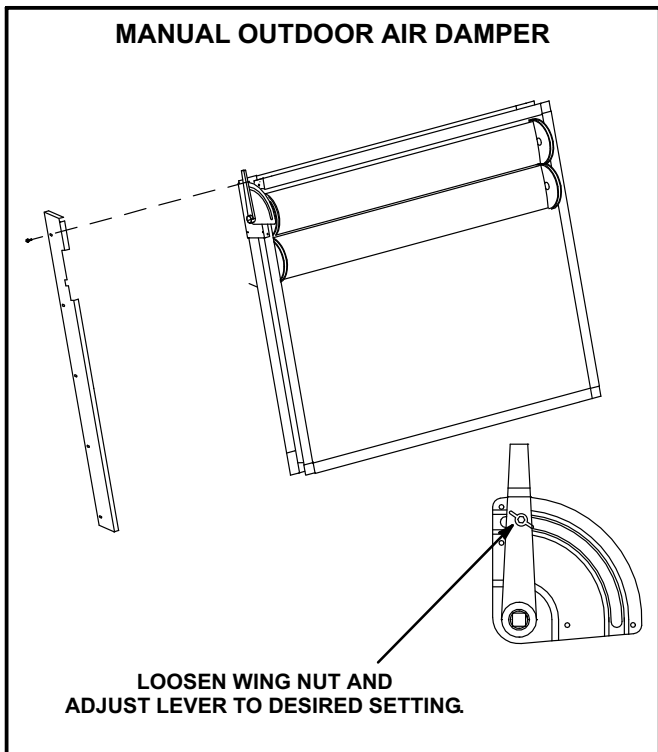

FIGURE 2
Damper is manually operated; damper position is manually set at installation and remains in that position. See figure 2.
- Align bottom of damper assembly with support bracket and slide assembly into unit. See figure 2.
- Loosen wing nut on damper adjustment lever on damper assembly end plate. Adjust to desired setting and tighten wing nut. See figure 2.